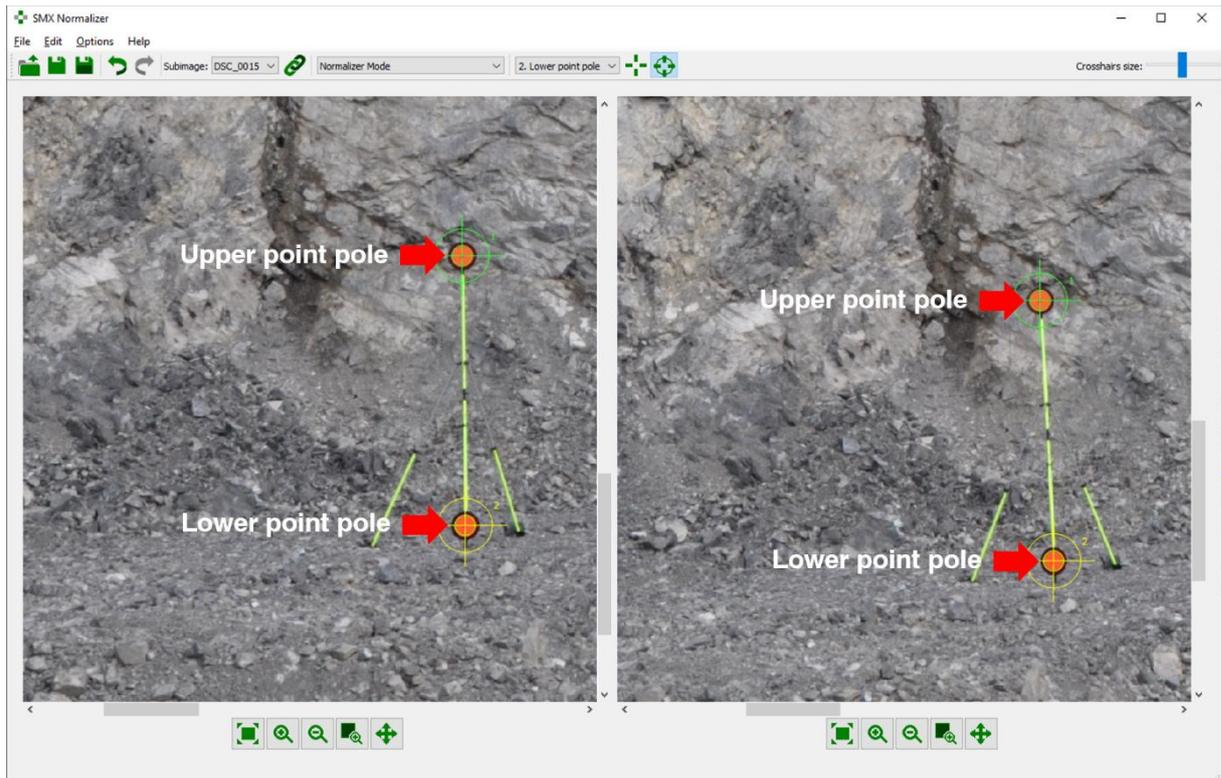

Figure 4: Corresponding Upper Point Pole and Lower Point Pole marked in the left and right image
The following points have to be defined in the left and right picture of the *Stereoscopic Image Pair* or *Stereo Setup* (see Figure 4):
10. Repeat 4 – 9 for the *Lower Point Pole* (lower target disc of the *Range Pole*). Figure 4 shows an example of automatically targeting of a *Range Poles* in the stereo viewer.